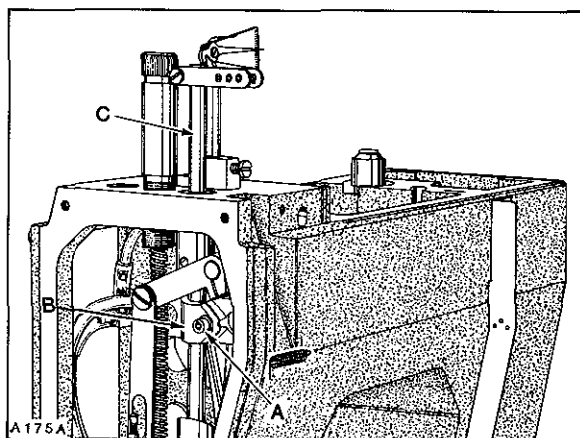

Fig.6
Rotate handwheel in OPERATING direction until the pin in looper holder contacts gauge plate. Loosen screw (A, Fig. 6) in needle bar connection (B) and position needle bar (C) as required to set the pointer of indicator gauge at "O" and tighten screw (A) VERY LIGHTLY.